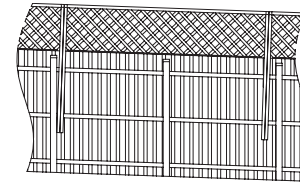
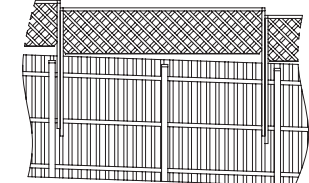

Fig. 1A
Fig. 1B
- 2 Ensure that the fence is solid and secure. Check the line of the top of the fence. If this line is not horizontal, you can install the fence extensions as shown in Fig. 1A. If this line is not straight, you can step the fence extensions to suit as shown in Fig. 1B.